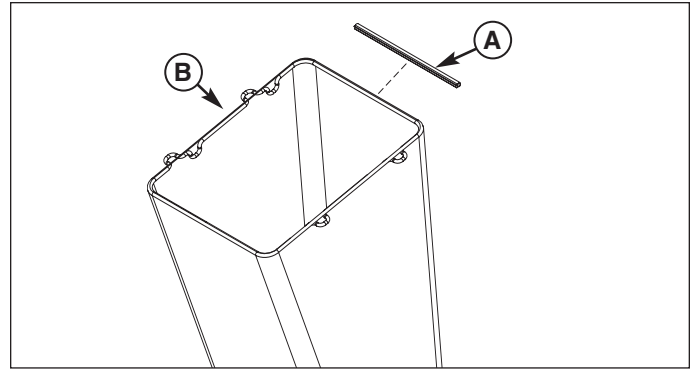

Figure 12. Install White Bar to Bag
1. Slide the white bar (A, Figure 12) onto smooth edge of bag frame and assembly (B) as shown.